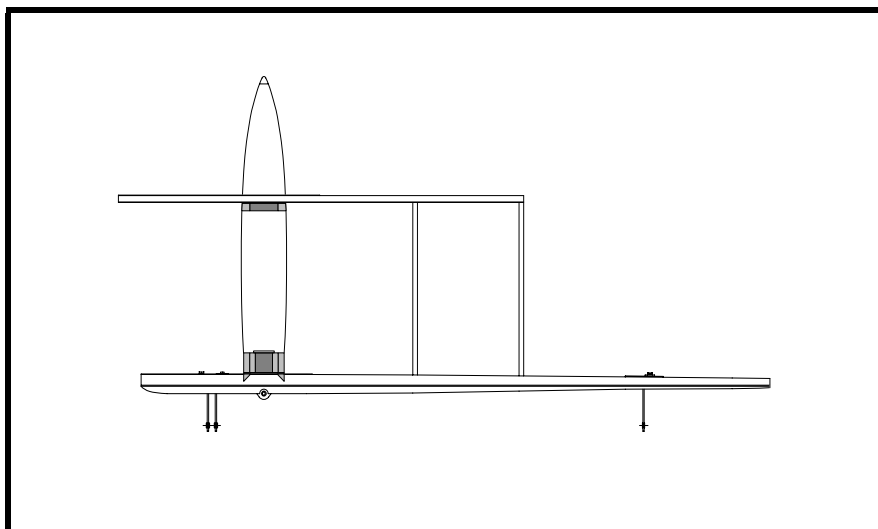

Figure 6
- ❑ Glue the intermediate rib for Sta. 2 to the main fin spar. While the glue is drying, it would be a good idea to clamp the forward fin spar in place to make sure that everything is aligned. See Figure 6.
- ❑ Glue the forward fin spar to these ribs, but do not glue the forward fin spar to the forward stabilizer spar. Clamp to the forward stabilizer spar during this gluing operation. See Figure 6. Scuff-sand the plywood before gluing.